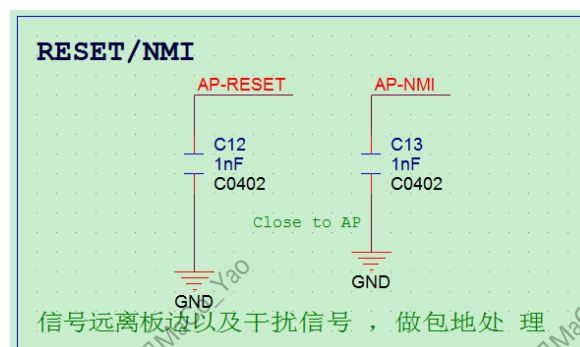

Figure 2-7 Reset and Interrupt Circuit Design
- The AP-RESET and AP-NMI need to connect to 1 nF grounded capacitors. Do not delete or change to other capacitance, or else it will affect the normal startup of the system. The reset and interrupt signals need to be far away from board edge and interference signals and surrounded with GND traces, as shown in Figure 2-7.